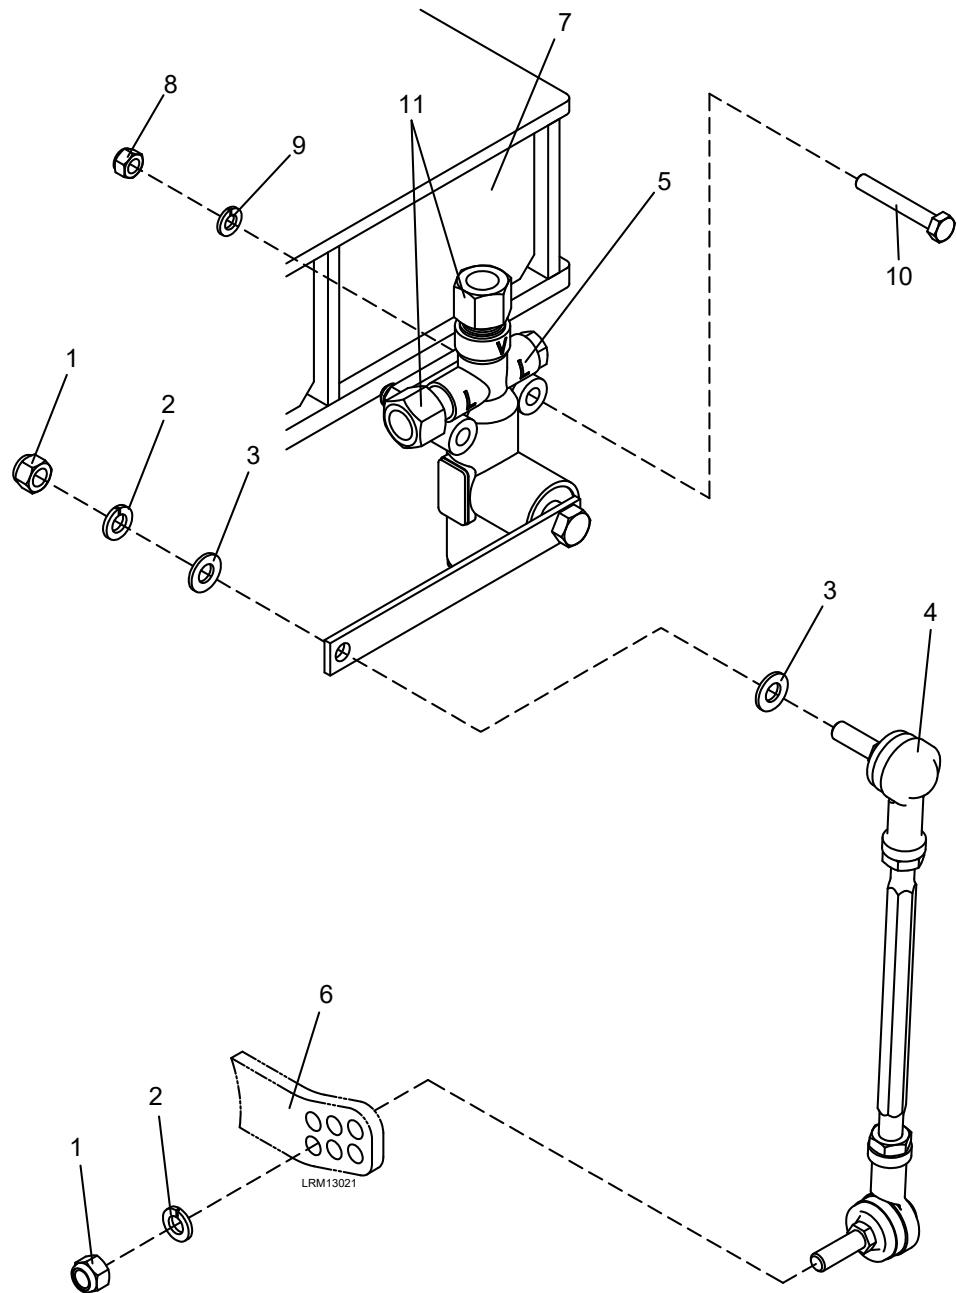

Figure 5-6: Leveling Valve
1. Disconnect the air supply to the truck bolster by looking at the indicator on the valve handle for the suspension cutout cock and repositioning the valve handle so that the indicator is perpendicular to the piping and the valve is closed. See Figure 5-6.
2. Remove the two M10 lock nuts (1), M10 lock washers (2) and M10 plain washers (3) from the adjusting rod assembly (4). See Figure 5-6.
3. Remove the adjusting rod assembly (4) from the leveling valve (5) and the truck frame (6).
4. Disconnect the leveling valve (5) from the truck bolster piping by loosening the two straight pipe connections (11).
5. Remove the two M8 lock nuts (8), M8 lock washers (9) and M8 x 60 bolts (10).
6. Remove the leveling valve (5) from the truck bolster (7).